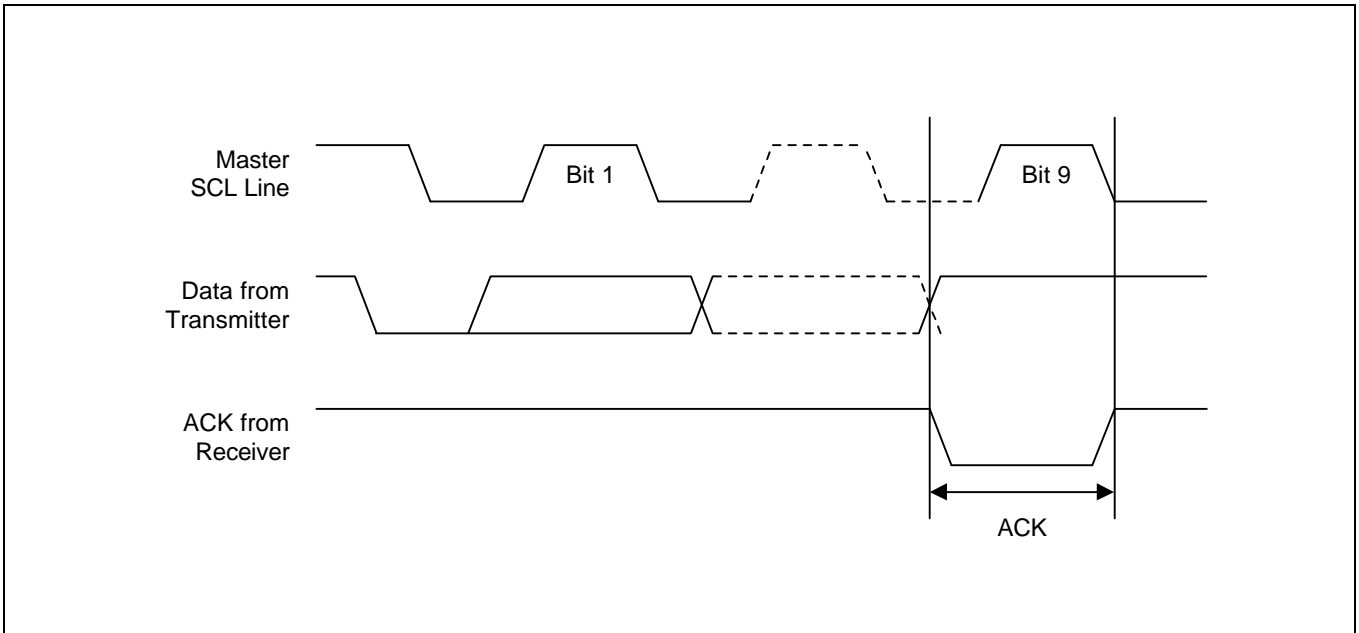

Figure 3-8. Acknowledge Response From Receiver
- **ACK (Acknowledge):** An ACK signal indicates that a data transfer is completed successfully. The transmitter (the master or the slave) releases the bus after transmitting eight bits. During the 9th clock, which the master generates, the receiver pulls the SDA line low to acknowledge that it successfully received the eight bits of data (see Figure 3-8). But the slave does not send an ACK if an internal write cycle is still in progress.